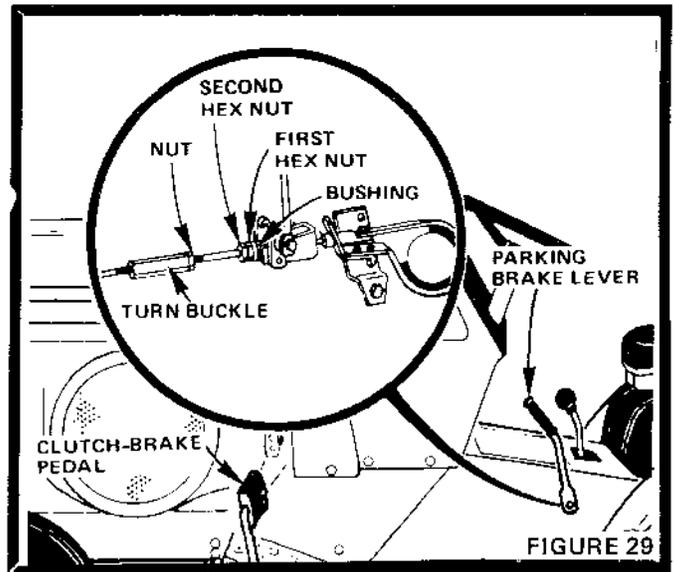

FIGURE 29
If Clutch-Brake Pedal (Fig. 29) has more than approximately 4 inches of travel from vertical to full brake position then brake adjustment is necessary.
- Loosen Nut (Fig. 29) in order to turn turnbuckle clockwise (from in front of tractor) one turn at a time until Clutch-Brake Pedal regains 4 inches of travel.
- Loosen Parking Brake Hex Nuts Second and First (Fig. 29).